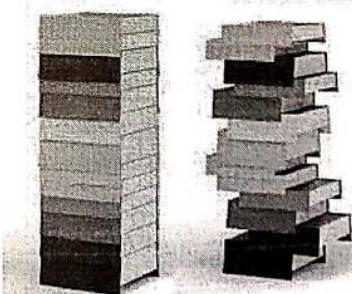

Fig. 6.1.1 : Stacked books
- The microprocessor stores the information/data like stacking books. Fig. 6.1.1 shows stacked books. If we want to remove the first stack book, then we have to remove all the books above the first i.e. we have to remove the top book, second from top book, third from top book and so on, then finally the first book at the bottom can be removed. This indicates that the first book pushed onto the stack is the last one to be popped from the stack. This operation is called as **First In Last Out (FILO)**.